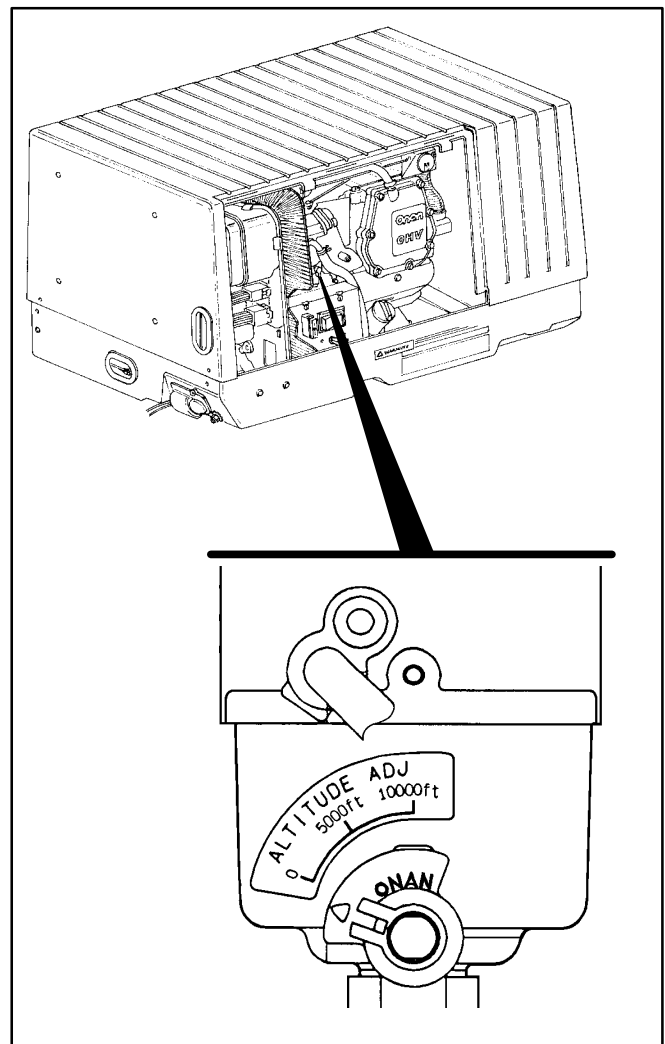

FIGURE 6. ALTITUDE ADJUST KNOB (GASOLINE MODELS ONLY)
2. Set the altitude adjust knob (Figure 6) for your altitude (gasoline models only).
5. Set the altitude adjust knob (Figure 6) for your altitude (gasoline models only).
For best fuel economy and genset operation set the carburetor altitude adjust knob (Figure 6) for your altitude (gasoline models only). Look at road maps, travel atlases and road signs for altitude. (See *Powering Equipment* for information on how altitude affects the maximum power output of the genset.)